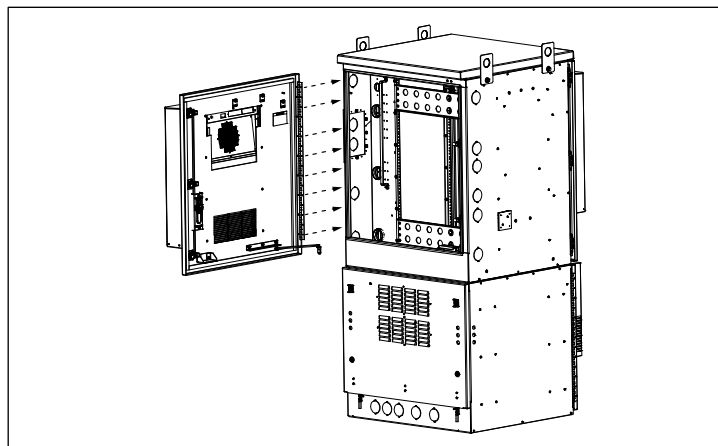

Figure 9 New Rear Door
4. Install the kit door using the 5-32 rivets included with the kit. Use two 1/4-20 Keps nuts (included with kit) to secure the wind latch to the studs inside the bottom of the door frame (Figure 9).